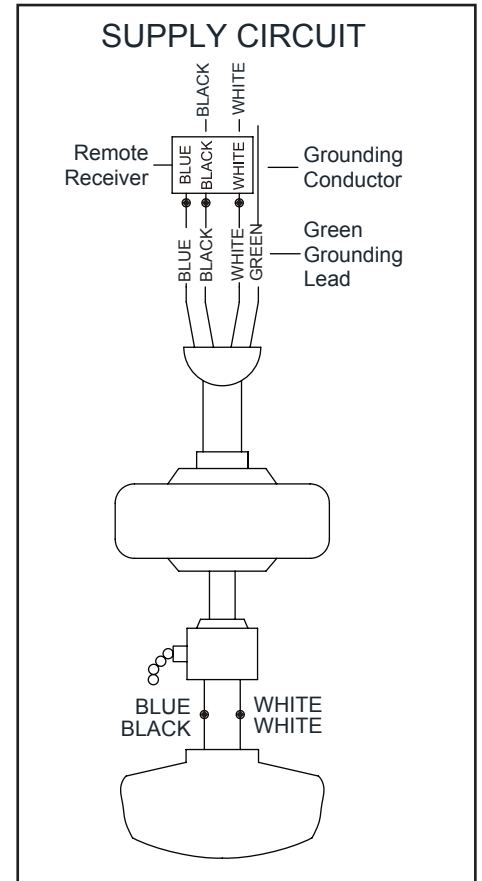

Figure 12
Follow the steps below to connect the fan to your household wiring. Use the wire connecting nuts supplied with your fan and connected with electrical tape. Secure the connectors with electrical tape. Make sure there are no loose strands or connections. (Figure 12)
1. Connect the ground conductor of the 120v supply (this may be a bare wire or a wire with green colored insulation) to the green ground lead(s) of the fan (Figure 12).
2. Connect the fan motor white wire to the receiver white wire using a wire nut (Figure 12).
3. Connect the fan motor black wire to the receiver black wire using a wire nut (Figure 12).
4. Connect the fan motor blue wire to the receiver blue wire using a wire nut (Figure 12).
5. Connect the receiver black wire to the supply black (hot) wire using a wire nut (Figure 12).
6. Connect the receiver white wire to the supply white (neutral) wire using a wire nut (Figure 12).